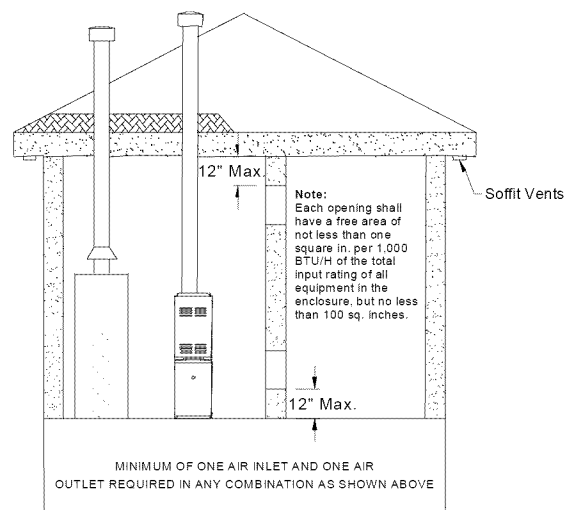

FIGURE 2
6. Remove regulator cover screw and turn regulator adjust screw clockwise (**P**) to increase pressure, or counterclockwise (**Q**) to decrease pressure (see fig. 2). Always adjust regulator to provide the correct pressure according to the original equipment manufacturer's specifications listed on the appliance rating plate. **Replace regulator cover screw and tighten securely.**
Figure 2 – Show air taken from the living area must be from two (2) permanent openings with each opening having a minimum of 1 square inch per 1000 BTUH of total gas burning equipment. One opening must be located within 12 inches from the top of the enclosure, and the other opening is to be located within 12 inches of the bottom of the enclosure.